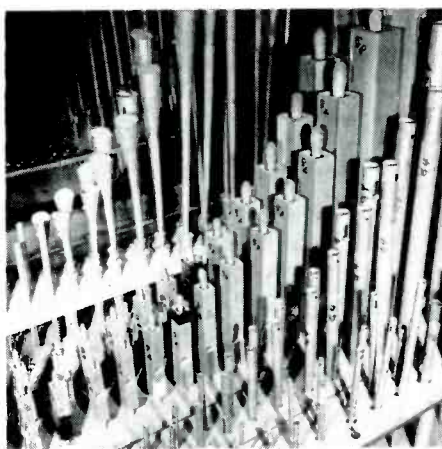
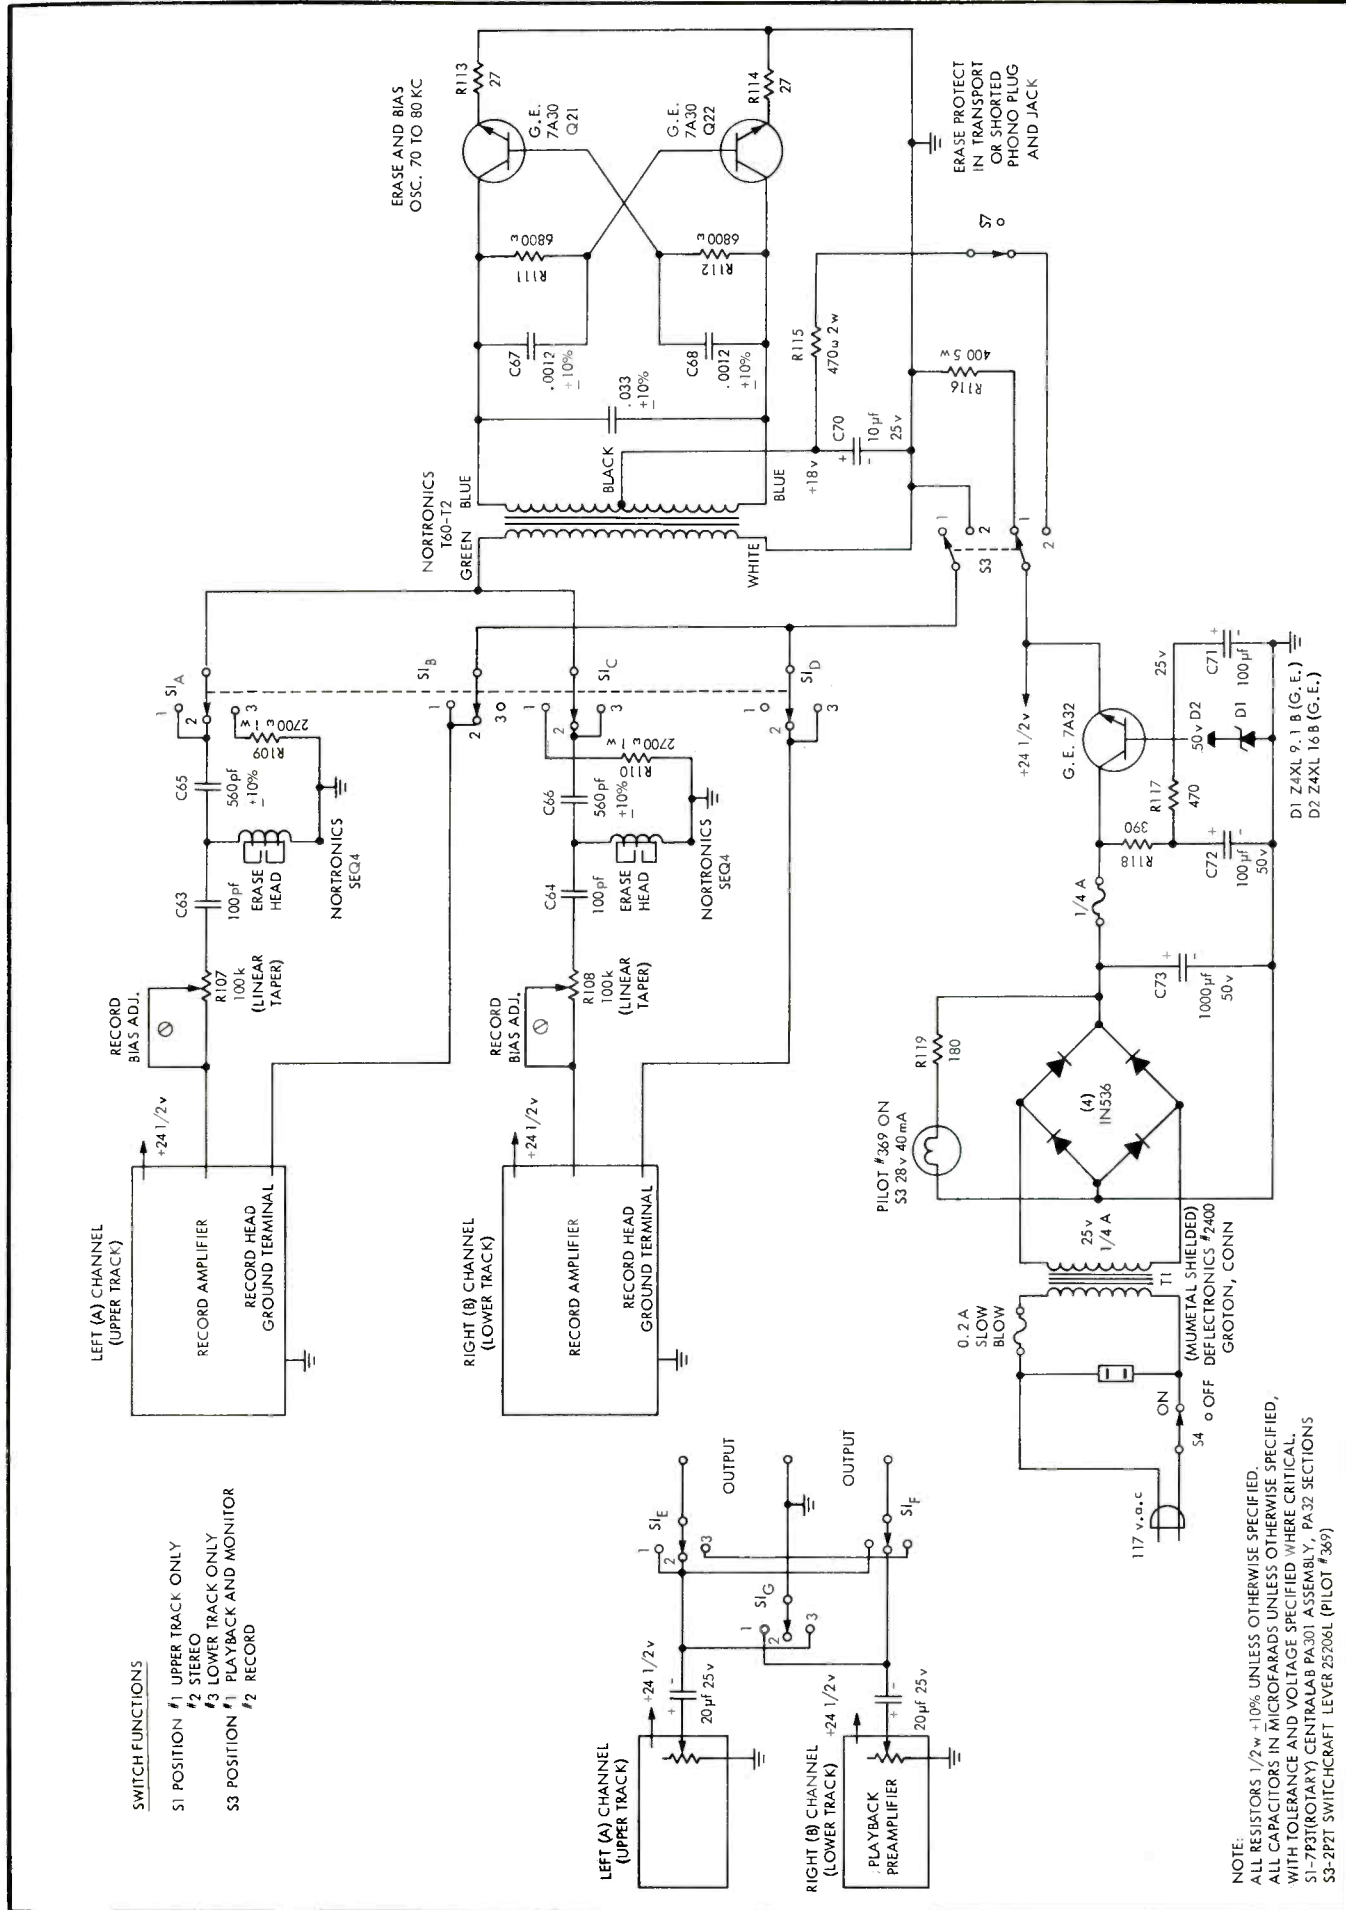
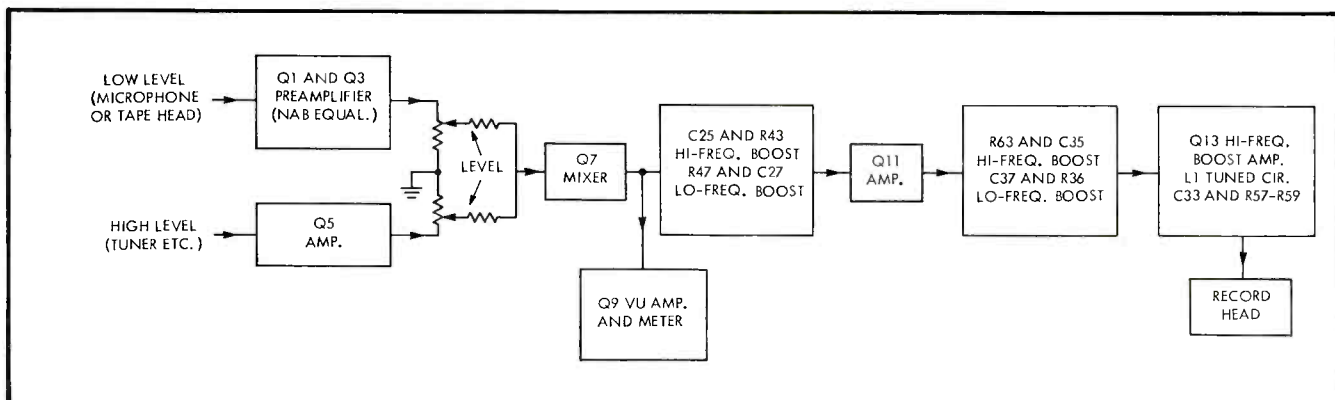

Fig. 1. The Great Division of a Small Pipe Organ.
Fig. 2. Schematic of silicon transistor stereo tape recording circuit.
Fig. 3. Record amplifier.
Fig. 2. The five middle C pipes of the Great. From left to right they are: (A) Quinte, 1-1/3-ft.; (B) Fifteenth, 2-ft.; (C) Principal, 4-ft.; (D) Gedact, 8-ft.; and (E) Oboe, 8-ft.
the organ is to be used in a non-reverberant home environment. Organ pipes do not have an instantaneous attack. Figure 1 shows some of the pipes of the Great division of my organ. There are five stops (i.e. five ranks of pipes) on the Great of this organ. All five of the middle C pipes are shown in Fig. 2. The middle C of the 8 ft. Gedact, shown at D, takes about 15 cycles to build up to full amplitude after wind is admitted to it by the electro-pneumatic slider and pallet chest upon which it is planted. Further, when the wind is cut off, it takes about the same time to stop sounding. Since the frequency of this pipe is roughly 260 cps, this corresponds to an attack time of 15/260 second or a little less than 60 millisecond.
Figure 2 shows the stereo tape record playback system using generally available silicon transistors. A block diagram of the record amplifier portion is shown in Fig. 3 for clarity. Referring now to Fig. 4, we will examine the record amplifier in greater detail. The low-level preamp circuit of the record amplifier utilizes feedback components R_9 and C_7 , or R_7 and C_5 . The latter serve to provide NAB equalization for a $7\frac{1}{2}$ ips tape head signal. The input impedance as seen by the microphone is 47k ohms, flat from 20 cps to 15 ke, and a low impedance microphone could be used with $R_9 = 330k$ and $C_7 = 0.1\mu f$.
Switch S_{2A} selects the record bias current for the different tapes and speeds. The tape erase and bias oscillator is shown in Fig. 2. It provides ample power to give a minimum of 60-db erasure of saturated tape (at 400 cps) with a stereo erase head. This is accomplished with at least 10 ma of 76 ke signal in the Nortronics SEQ4 erase head.